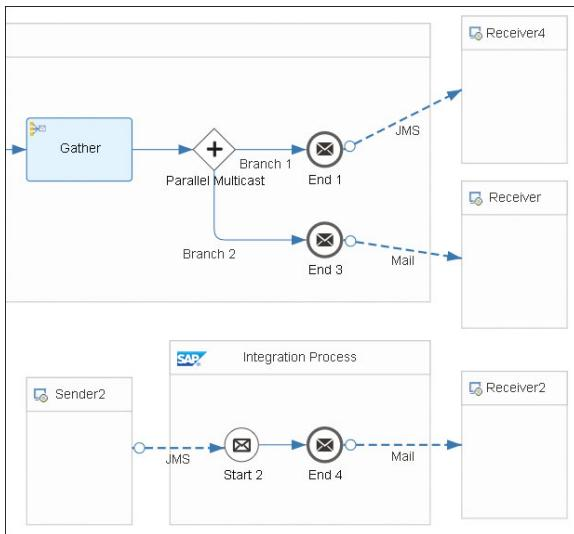

Figure 5.94 Configuration of JMS Outbound Queue for Receiver2
9. In the **JMS** channel's **Processing** tab, in the **Queue Name** field, configure the same value as in the **JMS** receiver channel; **Outbound_Queue2**. With the JMS outbound queue configured for the first receiver, the extended parts of the integration flow now look similar to Figure 5.94.